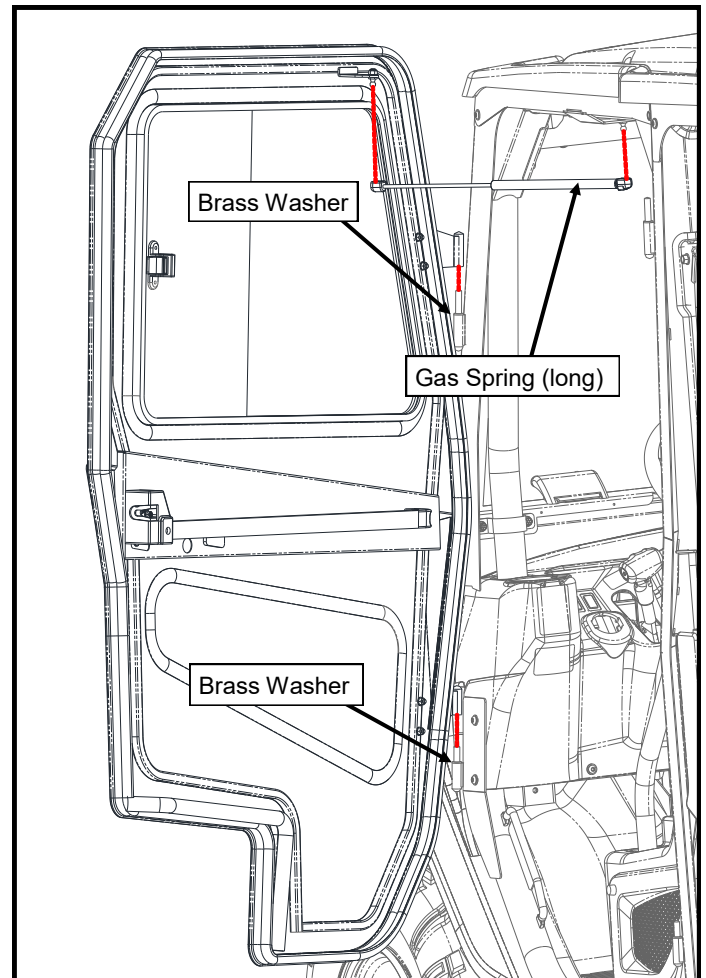

Figure 16.1: Front Doors (Driver's side shown)
- 16.1 Install a total of four brass washers onto the weld-on hinge pins on the Windshield Frame and Lower Hinge Mounts, one washer per pin (see Figure 16.1).
- 16.3 Holding the door perpendicular to the vehicle, lower the door hinge sleeves over the pins on the vehicle (see Figure 16.1).